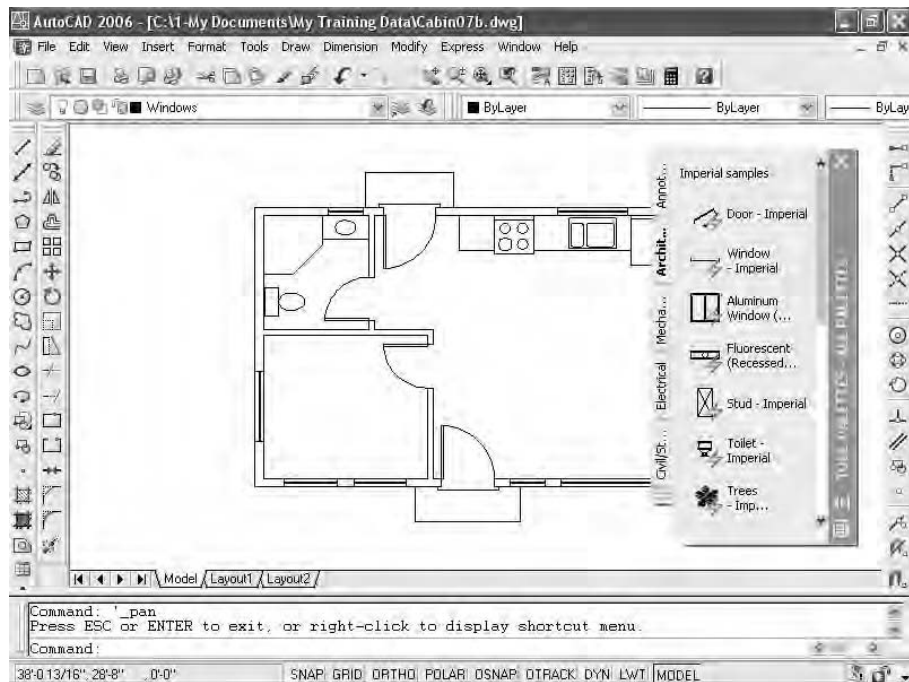

FIGURE 7.46: The palette with the Architectural Tab active
3. Click the Architectural tab to display its content on the palette. Its tab may be abbreviated to read “Sample...” (see Figure 7.46).